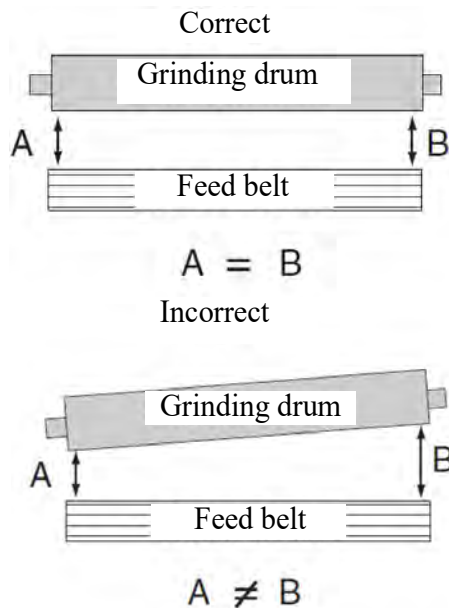

Fig. 25: Parallelism of feed belt and grinding drum
Step 7: Perform measurement at location A and B as shown in Figure 25..